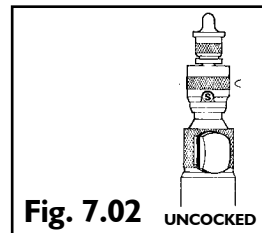

Fig. 7.02 UNCOCKED
- 1.2 Make sure firing pin and trigger are uncocked. (See Fig 7.02)